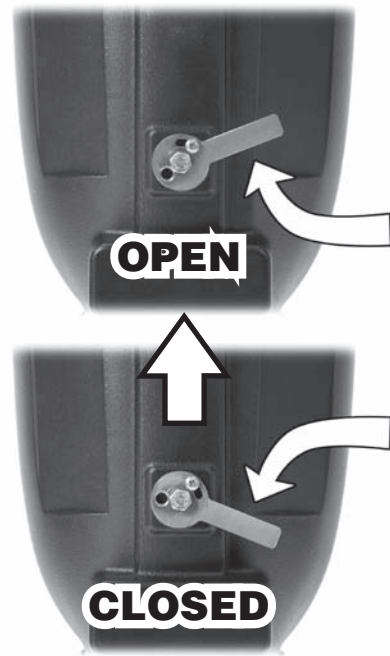

FIG. 6
6. Squeeze bag just below the cardboard collar and drop onto rubber gasket. (Fig. 6)
Active Cooling can be turned off by lowering silver metal bar. (Fig. 6)